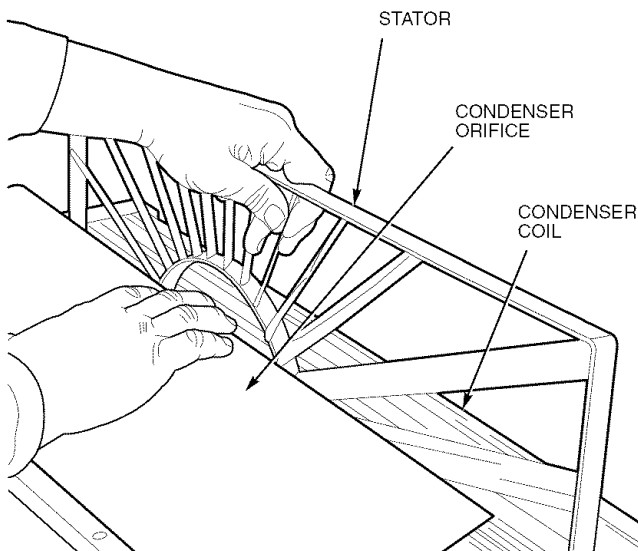

FIGURE 29 — REMOVING STATOR
9. Remove the stator by moving the condenser orifice toward the partition and by pulling the stator straight up. See Figure 29.